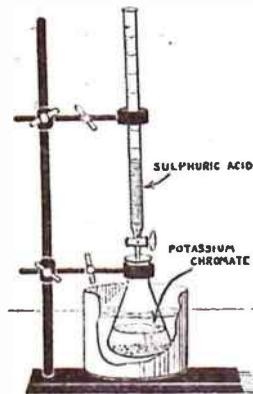

Fig. 2—Making potassium dichromate
7.77 grams of potassium chromate, then 15 c.c. of cold water and shake until the salt has dissolved. Clamp the flask so that it is partially immersed in cold water — which can be contained in a large tin. Over the flask mouth clamp a burette containing some strong sulphuric acid (Fig. 2).